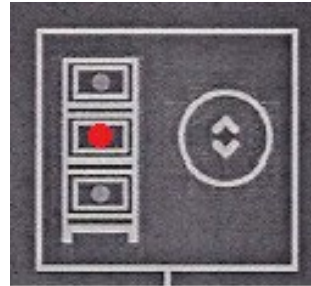

Figure 23. Unit Selector Button and Display – Middle LED Selected (Standard model)
- f. Press the Unit Selector button on the left side of the Operating Panel until the middle LED is selected (refer **Figure 23**).